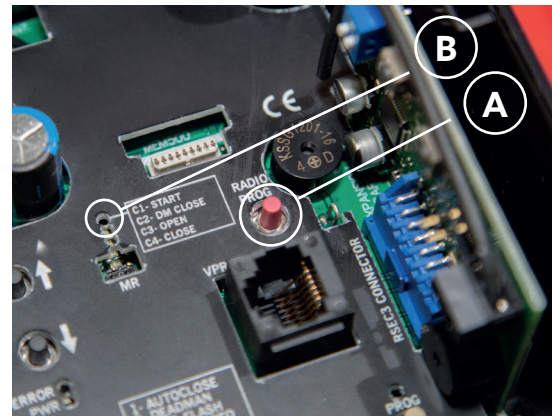

fig.7.1A
- 1 Press and hold the "RADIO PROG" button (**fig. 7.1A**). You will hear a beep and the red LED alongside "C1" will illuminate. Then release the "RADIO PROG" button.
- 1 Press and hold the "RADIO PROG" button (**fig. 7.1A**). You will hear 3 beeps and the red LED alongside "C3" will illuminate.
- 4 Press and hold the "RADIO PROG" button (**fig. 7.1A**). You will hear 4 beeps and the red LED alongside "C4" will illuminate.